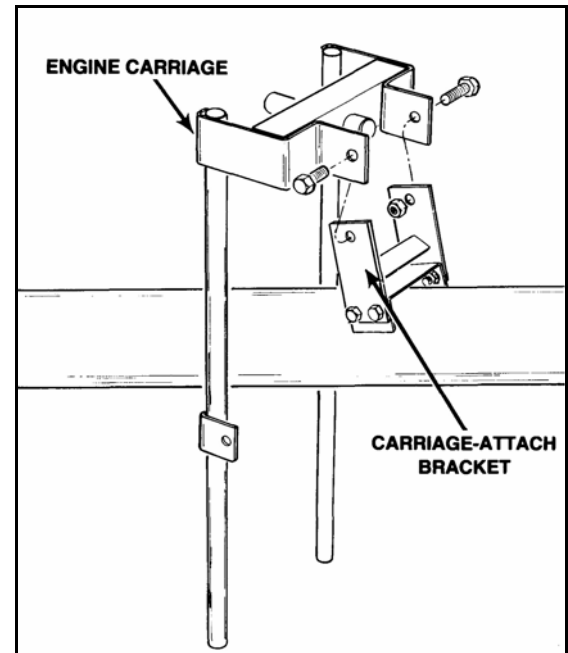

Figure 3.15
1. Mount engine carriage attach-bracket to the welded bracket on auger tube as shown in Figure 3.15 with four 7/16" x 1" bolts and locknuts.
2. Place engine carriage over auger tube (Figure 3.15), and secure to the carriage attach-bracket with two 5/8 x 1-1/2" bolts and locknuts. **Do not overtighten. Tighten snug only.**
Important: Locknuts must be on inside of carriage-attach bracket (Figure 3.15), to allow attaching u-joint guard after locknuts are in place.